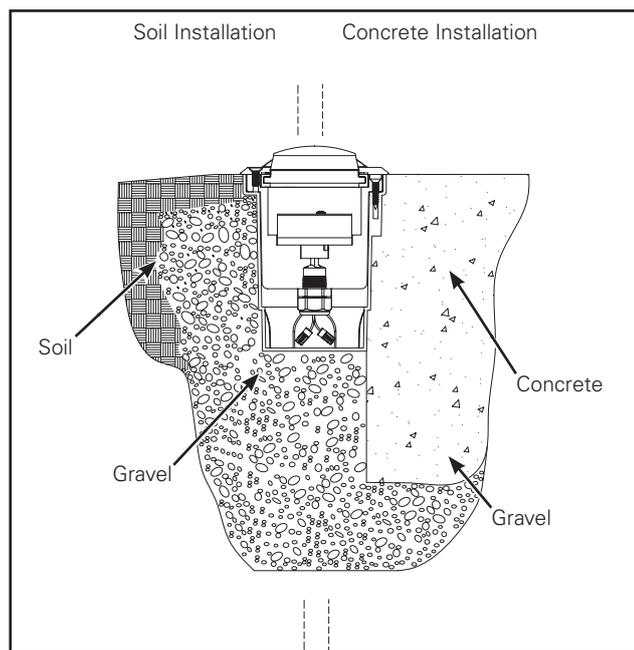

Figure 4.
Do not place fixtures in low areas where water will accumulate and submerge the fixtures. Never submerge fixture. It is not designed for submersion in pools, ponds, fountains or any landscape subject to continuous or repetitive flooding. (Figure 4.)
8. Insert lamp into lamp holder. (Figure 4.)
1. Fixture should be placed on 8" minimum of pea gravel, with soil below to promote drainage. Alternatively, provide a system that allows water to drain away from beneath the fixture. (Figure 4.)